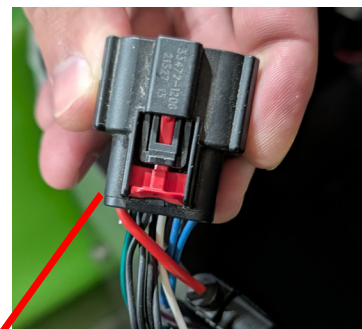

Fig. 1
- Disconnect the molex plug. (Fig. 1)